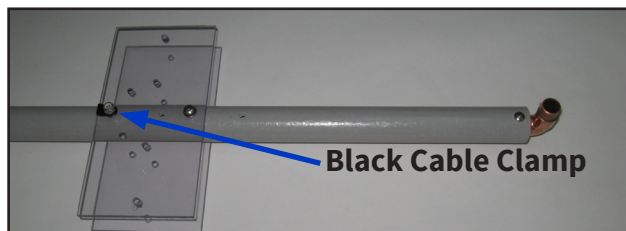

Fig. 51
- Select a No. 10 Flat washer and place it over the screw that was installed during the previous step as shown in Fig. 51. Then place a No. 10 Black Cable Clamp and a 10-24 SS Anti-vibration Hex Nut on the screw. Tighten the fastener finger-tight.